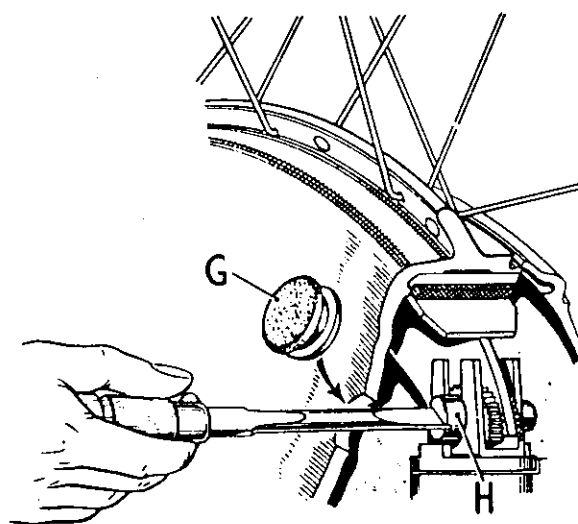

Fig. F3a. Front brake shoe adjustment.
Slacken the handlebar adjuster and remove the grommet (G) Fig. F3a, from the hub shell. Rotate the wheel until the aperture is opposite to the adjuster screw (H), which can be turned with the aid of a screwdriver. Rotate the screw in a clockwise direction, one "click" at a time, until the shoe is fully expanded against the drum. Now unscrew the adjuster until the shoe is just clear of the drum and the wheel rotates freely.